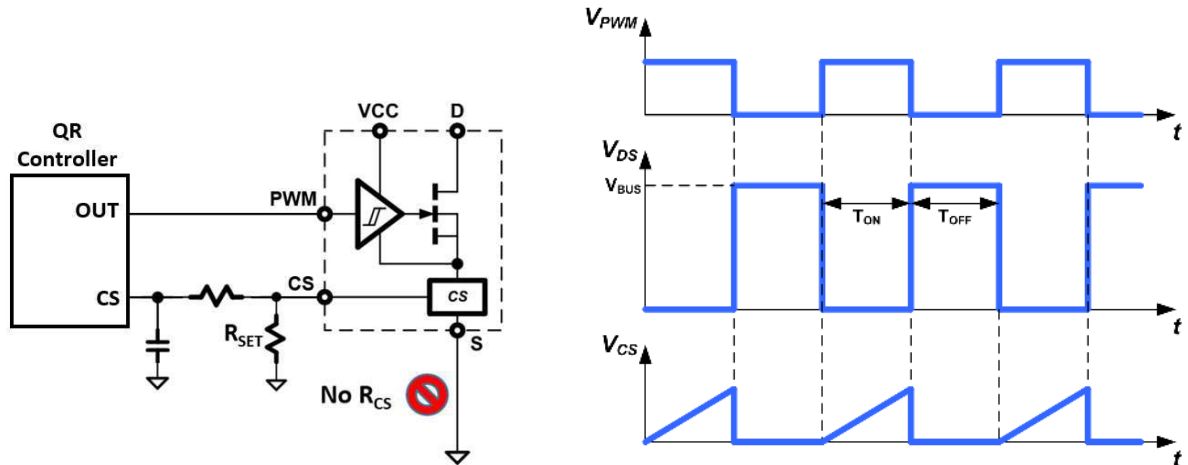

Fig. 26. Current sensing circuit and timing diagram
For many applications it is necessary to sense the cycle-by-cycle current flowing through the power FET. Existing current sensing solutions include placing a current sensing resistor in between the source of the power FET and P_{GND}. This resistor method increases system conduction power losses, creates a hotspot on the PCB, and lowers overall system efficiency. To eliminate this external resistor and hotspot, and increase system efficiency, this IC includes GaNSense™ Technology for integrated and accurate loss-less current sensing. The current flowing through the internal GaN power FET is sensed internally and then converted to a current at the current sensing output pin (CS). An external resistor (R_{SET}) is connected from the CS pin to the S pin and is used to set the amplitude of the CS pin voltage signal (Fig. 26). This allows for the CS pin signal to be programmed to work with different controllers with different current sensing input thresholds.